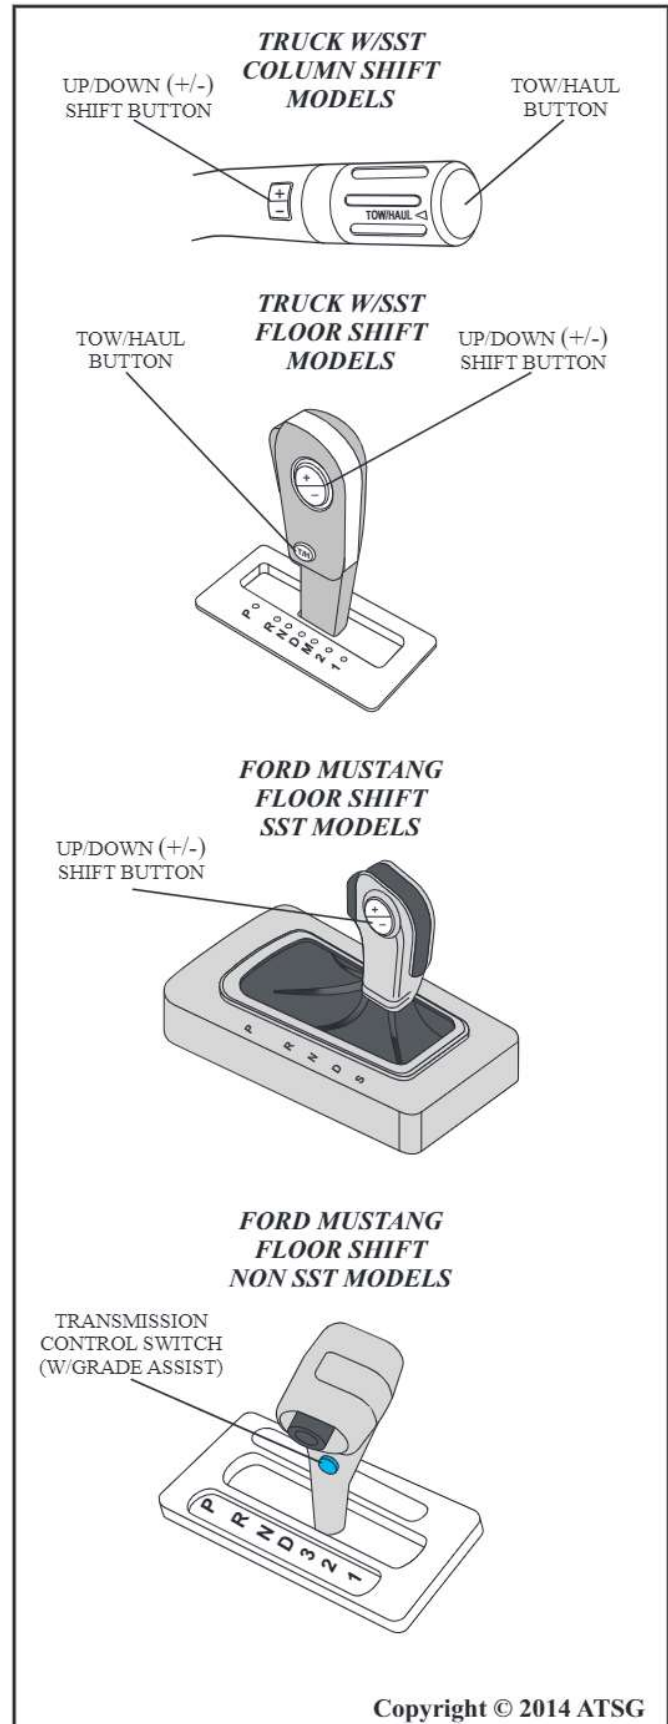

Figure 10
Progressive Range Selection (PRS) mode is currently available in F150 models. With the gear select lever in the D position, depress the (-) button in the shifter handle to activate PRS mode. Refer to Figure 10 for button location in both column shift and floor shift models. After PRS mode has been activated, all available gears will be displayed with the current gear illuminated and displayed in the instrument cluster. Depress the (-) button again and the PCM will lock out gears beginning with the highest gear (6th) gear, ie. press the (-) button twice and 6th gear and 5th gear will be locked out. Now only the available gears will be displayed and the transmission will automatically shift between the available gears that are not locked out. Depressing the (+) button will unlock gears thereby allowing the transmission to shift up into higher gears that had been previously locked out. Again, the transmission will be automatically shifted within the gear range that has not been locked out.
The Manual (M) Range is currently available in the F150 (both column and floor shift models) and the Mustang. When the gear select lever has been placed into the M position (F150 models) or the S position (Mustang) models (refer to Figure 3) the driver will now have the capability of controlling the shift timing of the transmission by depressing the (+) button for shifting up or the (-) button for shifting down. Refer to Figure 10 for a diagram and description of the column and floor shifters. Only the current gear will be illuminated in the instrument cluster. While driving in the M mode, if the (-) button is depressed at such a speed that would cause too much overspeed, the requested gear will flash then disappear and the transmission will remain in the current gear. In order to prevent engine stall from running at too low an RPM, the PCM SST mode will automatically perform downshifts if it is determined a downshift request has not been performed in time.
The Tow/Haul Switch is a momentary contact switch that is located either in the end of the shifter handle for column shifter models or on the selector lever for console shifter models as shown in Figure 10. Tow/Haul (OFF) feature is the normal driving position for maximum fuel economy. Tow/Haul (ON) feature improves transmission shifting operation when towing a trailer, or carrying heavy loads. In order to activate the Tow/Haul feature, depress the button of the Tow/Haul switch. With this feature enabled the Tow/Haul icon in the instrument panel will be illuminated and upshifts will be delayed, meaning